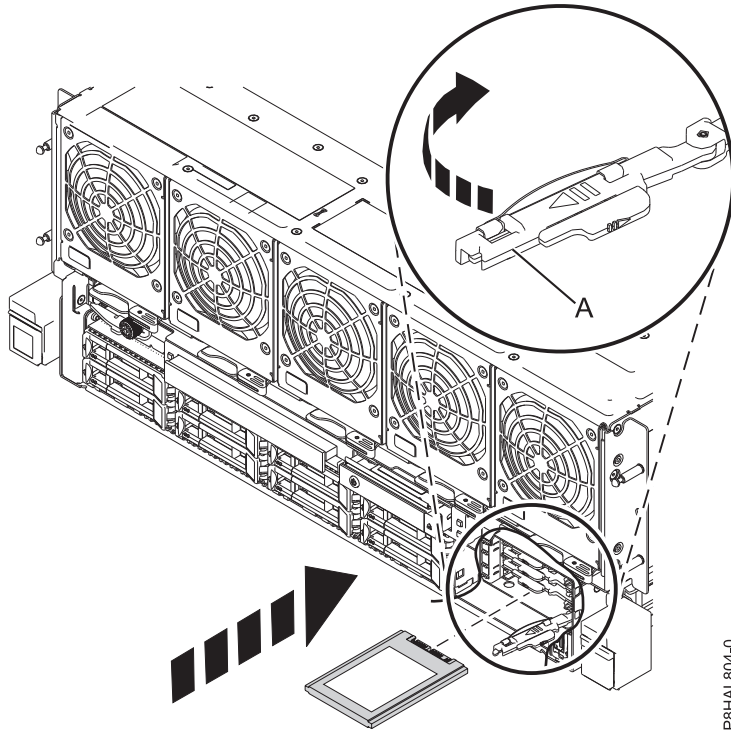

Figure 37. Replacing an SSD in an 8408-44E or 8408-E8E system
13. With the SSD drive bay handle **(A)** in the unlocked position, pull the lever outward to gain access to the guide rails in the SSD slot. Support the bottom of the SSD as you align it with the guide rails in the SSD slot. See Figure 37 on page 48.
17. Lock the drive by rotating the bay handle **(A)** in the direction that is shown in Figure 37 on page 48.